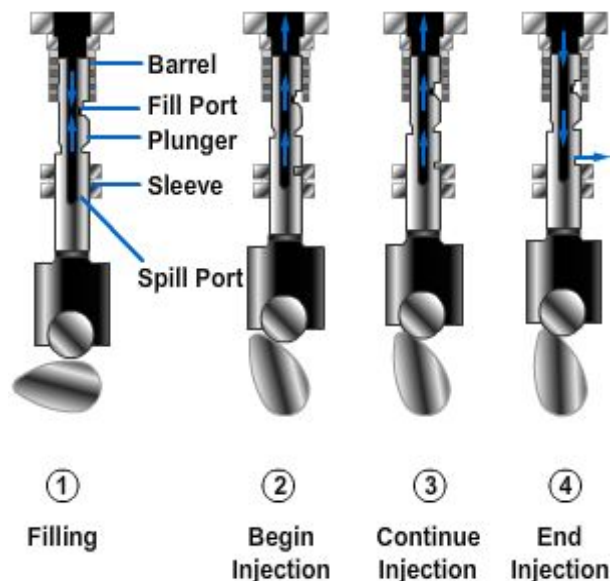

Figure 5-11 — Injection pump operating cycle.
- Since the injection pump is constantly filled with diesel from the transfer pump under pressure, any time the fill port is uncovered, the internal drilling of the plunger will be primed by the incoming fuel caused by the downward moving plunger relative to pump camshaft rotation (*Figure 5-11*).